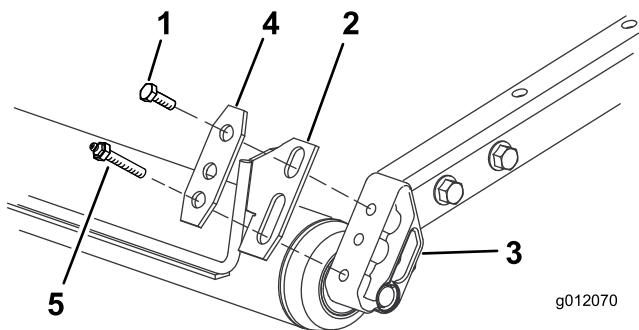

Figure 1
3. Loosely mount each end of the scraper and a scraper plate to each roller mount with the previously removed grease zerk/bolt and a bolt (3/8 x 3/4 inch) (Figure 1).